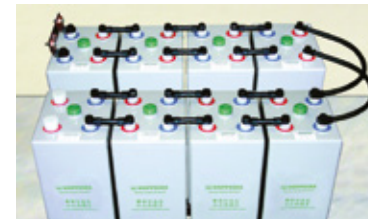

Fig. 5-15: Using row connectors and step connectors
There are screwed row, step and tier connectors (see Fig. 5-15). Row connectors are used to connect the individual cells/monobloc batteries, step connectors are used to connect the individual steps to one another (for use with step racks) and the tier connectors are used to connect the tiers (for use with tier racks).
2. Attach the connectors as shown in Fig. 5-15. First attach the screws by hand only so that you can make final adjustments to the cells and connectors.
There are a total of 11 different types of connection plates (see Fig. 5-15). Connection plates are always used when wires must be connected to cells with multiple battery terminals.